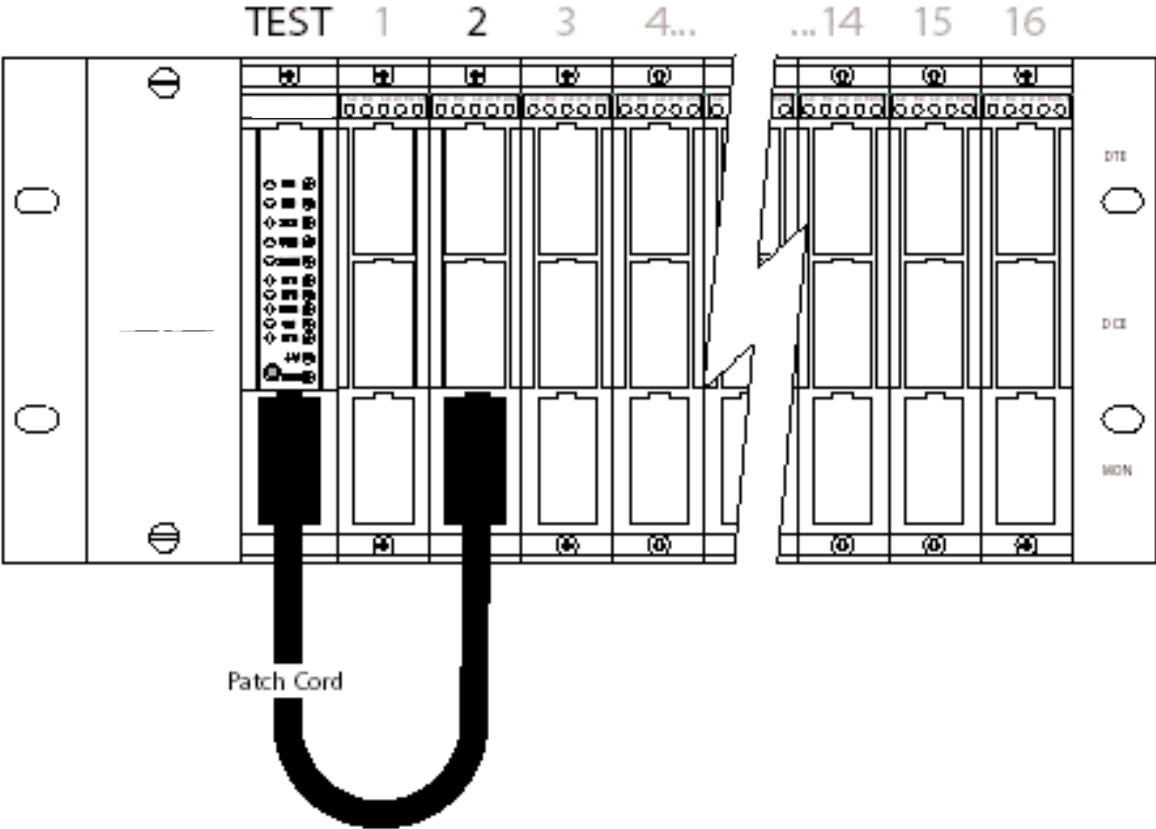

Figure 6-1. Patch-cord connection.
1. Connect one end of a test patch cord to the patch module's DCE patch cavity (see Figure 6-1).